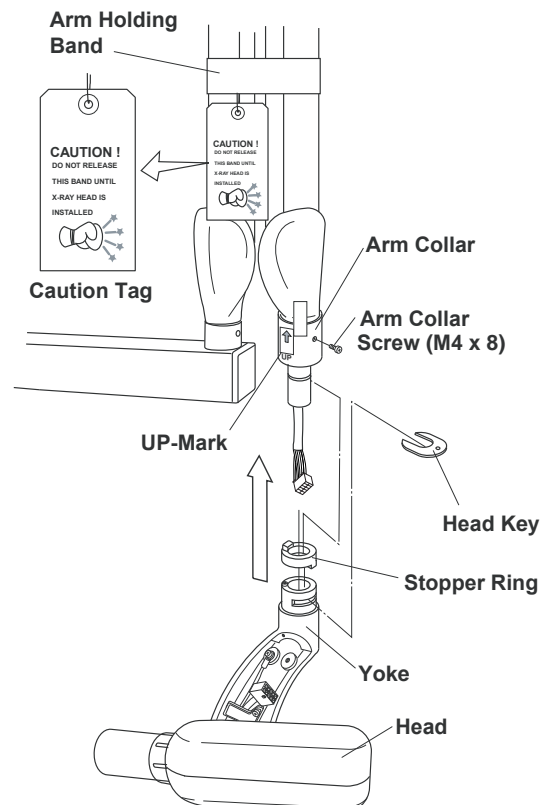

Fig.3-21 X-ray Head Installation
3. Making sure the stopper ring is placed on the yoke, insert the wiring from the balance arm assembly through the head shaft and into the yoke. (Fig.3-21)
4. Insert the shaft of the balance arm into the head yoke, and while holding the head in position, insert the head key securely into the retaining groove. (Fig.3-21)
5. Remove adhesive tape and slide the arm collar downward. Fix it in place with the arm collar screw. Remove the UP-mark from the arm collar. (Fig.3-21)